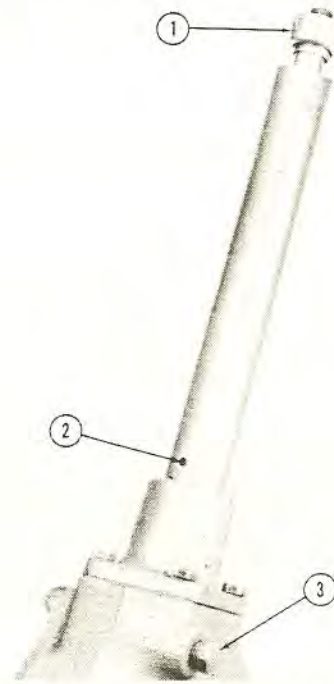

Fig. 7 – Steering Shaft Cover Tube
g. Tap out the cover tube bearing assembly (No. 9) from the steering shaft cover as shown in No. 1, Fig. 7.
c. Ball retaining cups, balls (14) and snap rings.
2. Insert the steering shaft into the housing. Using the original shim pack, install the cover tube with the vent hole (No. 2, Fig. 7) to the front. Do not install an "O" ring on the cover tube at this time.
6. Position a lubricated "O" ring into the groove in the cover tube. Install the cover tube and the adjusted shim pack onto the housing, being careful not to damage the "O" ring. Install the cover tube so that the vent hole (No. 2, Fig. 7) is towards the front of the tractor.